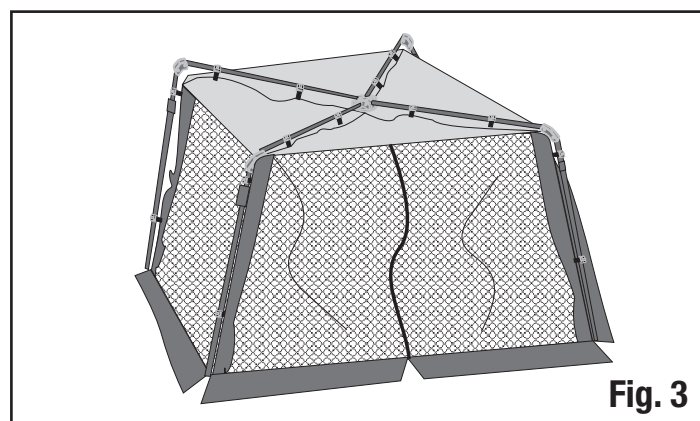

Fig. 3
- Extend the arms of the screenhouse away from the center hub. (Fig. 3)